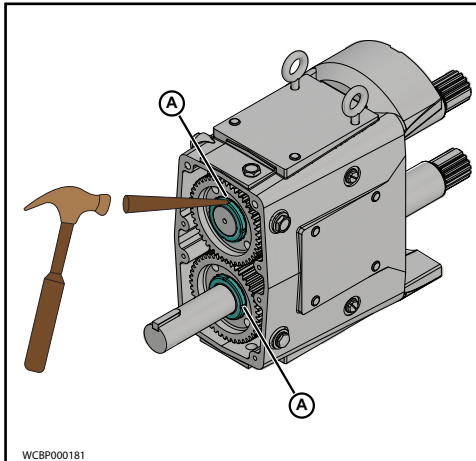

Figure 48 - Straighten Lock Tab
1. Straighten the tab on the lock washers, as shown in Figure 48, (A).